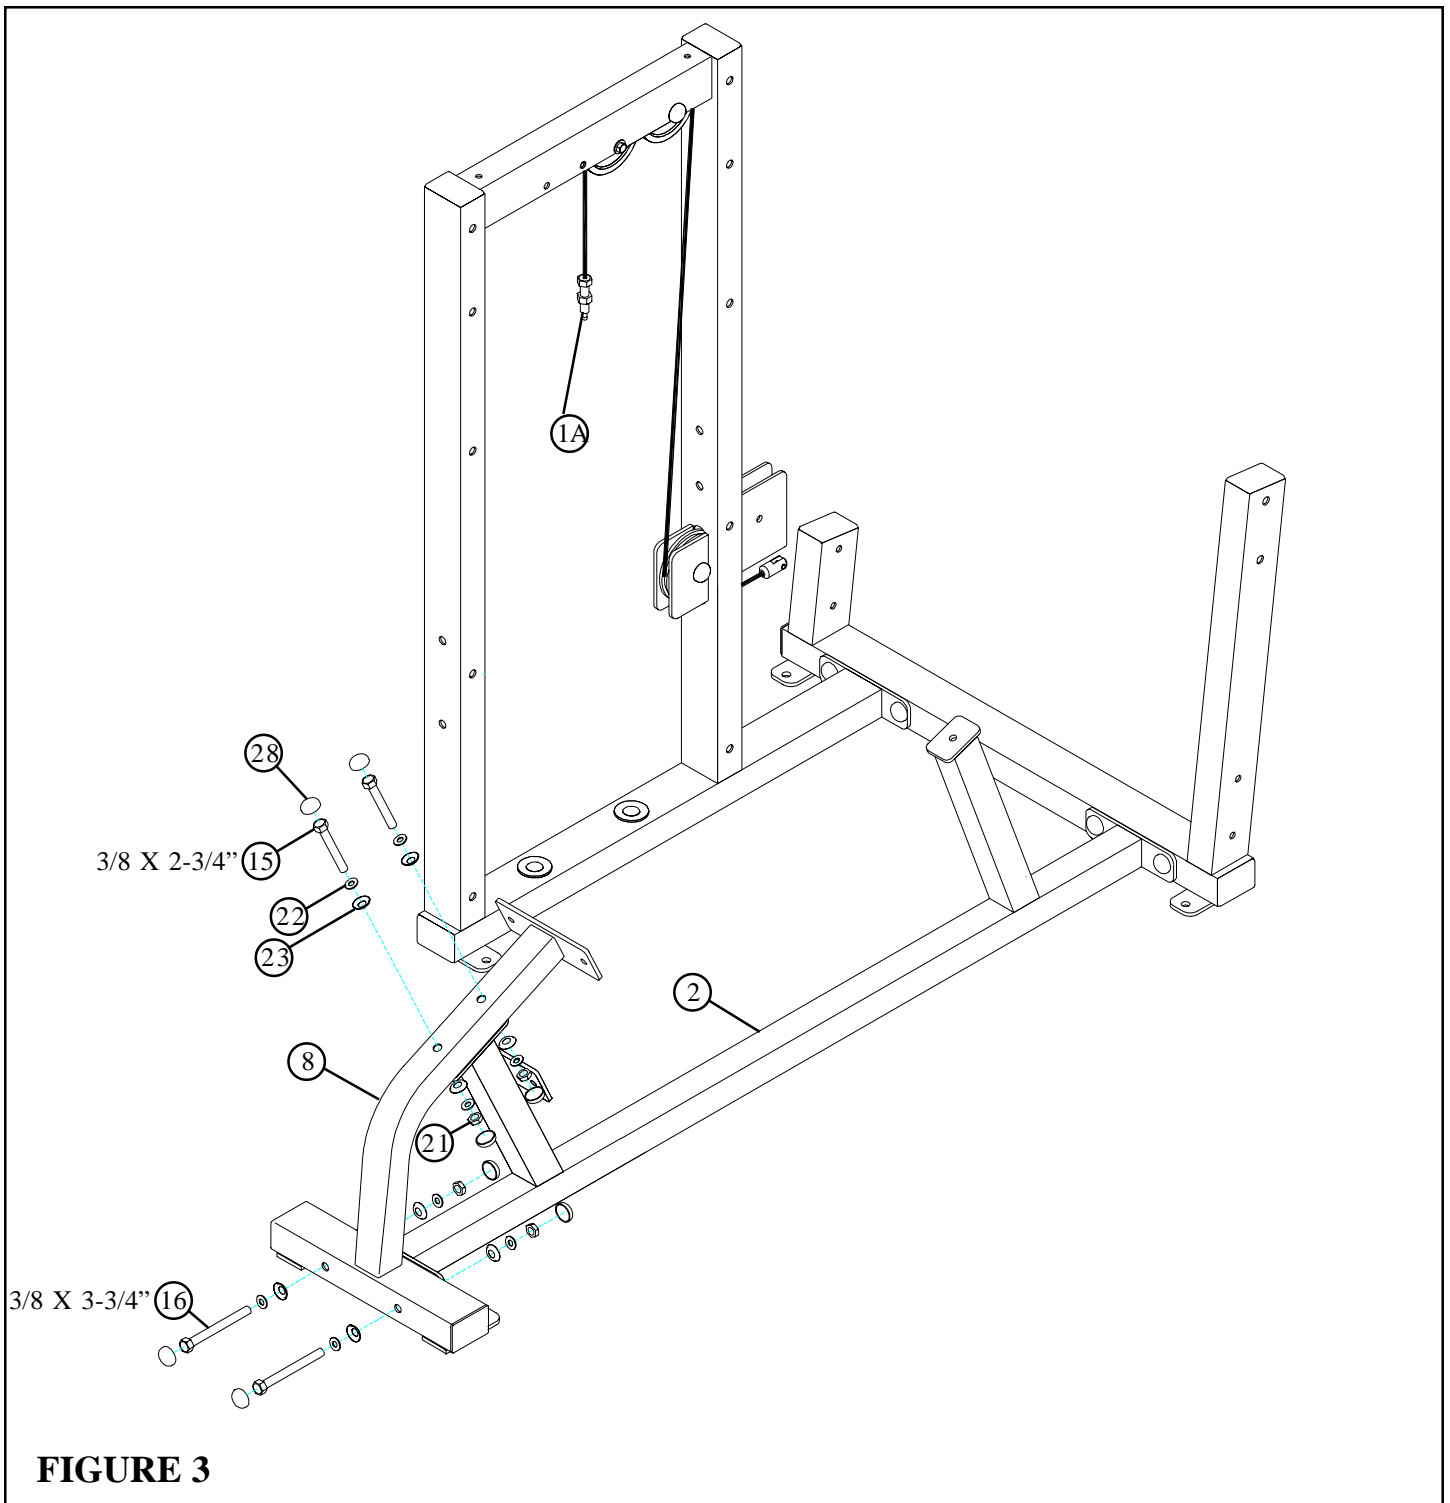

**FIGURE 2**
- **LOOSELY** assemble the BASE FRAME (2) to the REAR FRAME (6) using four RH CAPS (28), two 3/8 X 3-3/4" BOLTS (16), four 3/8" SAE WASHERS (22), four 3/8" RH WASHERS (23), and two 3/8" LOW HEIGHT LOCK NUTS (21) as shown in FIGURE 2.